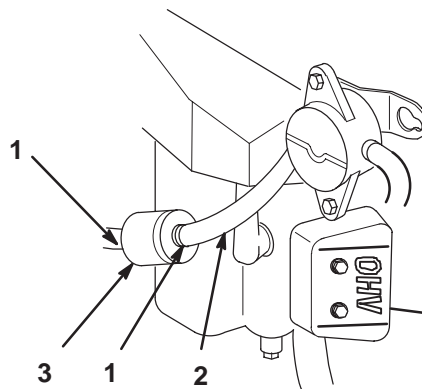

Figure 38
2. Close fuel shut-off valve at fuel tank (Fig. 38).
3. Squeeze the ends of the hose clamps together and slide them away from the filter (Fig. 38).
6. Open fuel shut-off valve at fuel tank (Fig. 38).
7. Check for fuel leaks and repair if needed (Fig. 38).